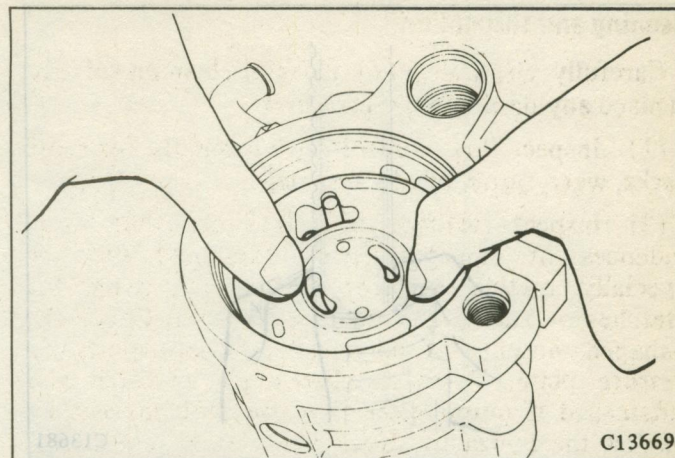

Fig. 106 Installing the End Plate
(8) Lubricate pressure plate with MOPAR ATF DEXRON II (Part Number 3459660 or 4131509) or equivalent, so as not to damage pressure plate O ring.
(9) Install pressure plate on dowel pins with circular depression for spring toward rear of housing. Pressure plate must be pressed about 1.6 mm (.06in.) over the O ring to seat. (Fig. 106)